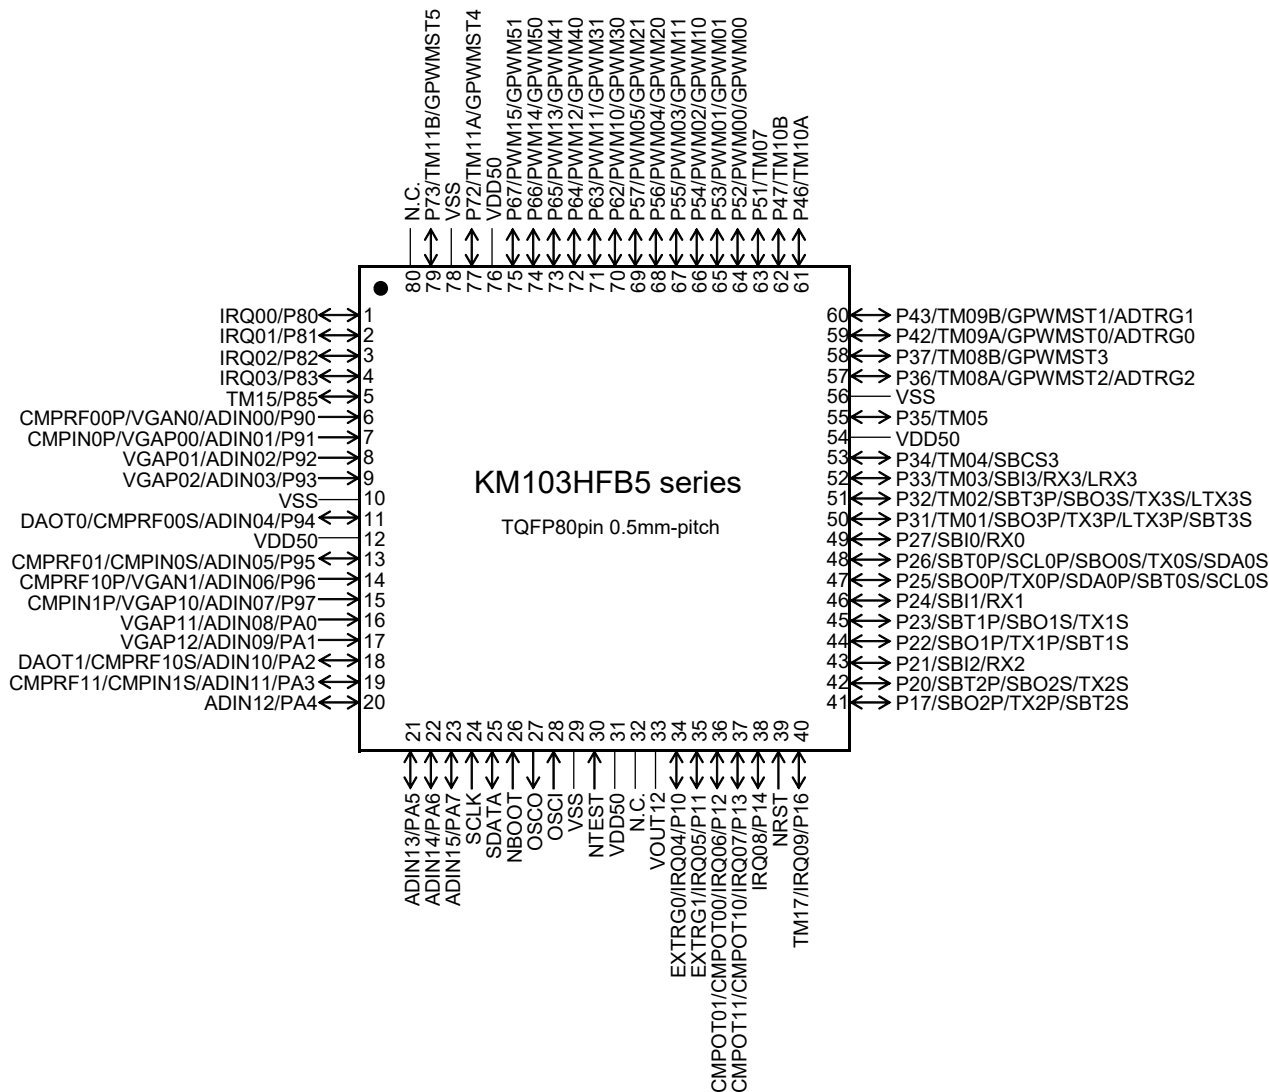

Figure 1.4-3 Pin Configuration Figure of KM103HFB5 Series (80 pins)
- Pin Configuration Figure of KM103HFB5 Series (80 pins) (Figure 1.4-3 )
Figure 1.4-3 shows pin configuration figure of KM103HFB5 series (80 pins).